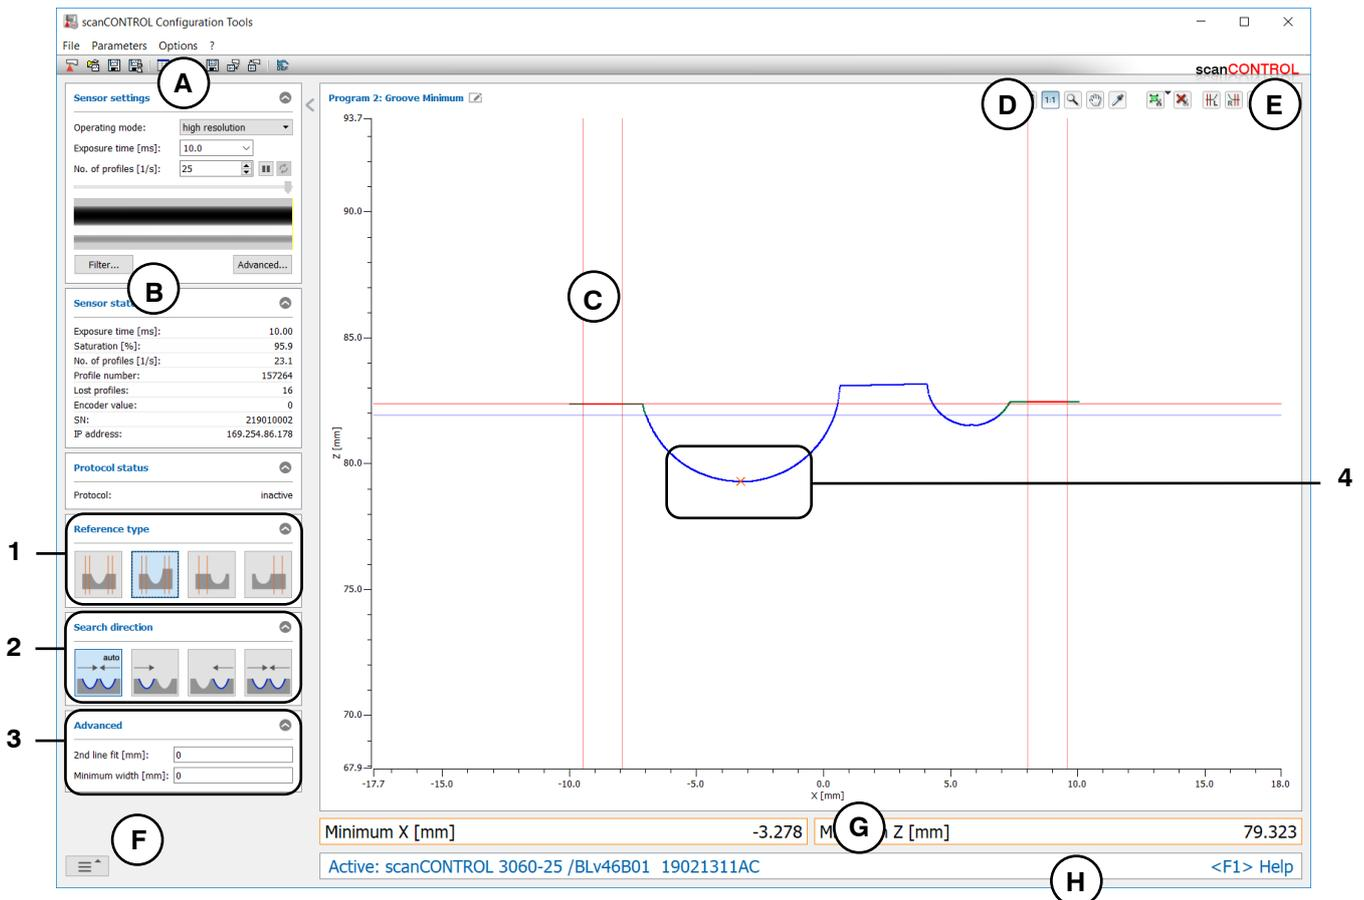

Fig. 4.33: "Groove Minimum" measuring program
- Define the type of deepening (see Fig. 4.33 and Chapter 3.13.1):